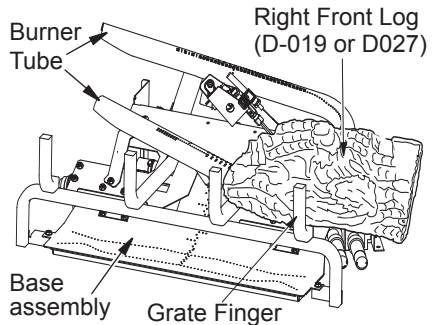

Figure 24 - Installing Right Front Log
1. Find the right front log (LMF42-SC: D-019 or LMF48-SC: D027). See Figures 24, 24A, 24B, and 24C for reference. The log